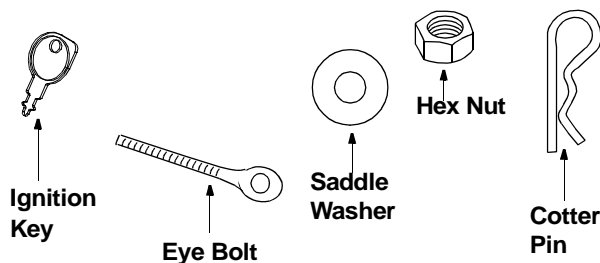
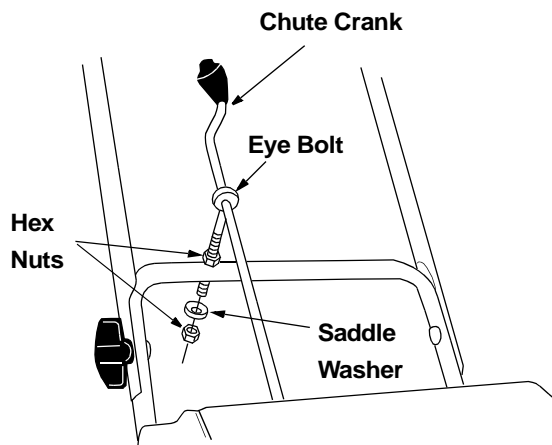

Figure 2
Figure 5
### Hardware pack (Figure 2)
- Thread one 5/16” hex nut all the way onto the eyebolt. See Figure 5. All necessary hardware is included in the hardware pack shipped with your unit. See Figure 2 for more details.